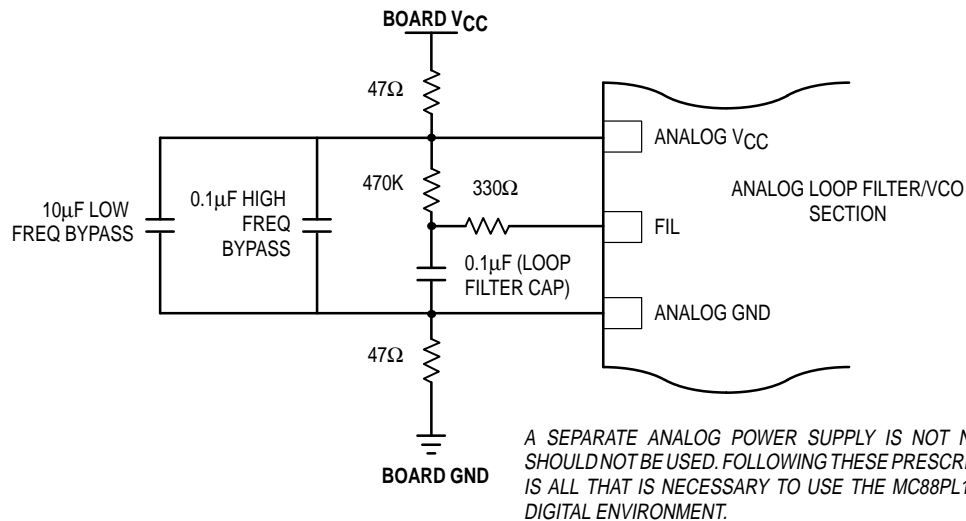

Figure 12. Recommended Loop Filter and Analog Isolation Scheme
- 1 Figure 12 shows a loop filter and analog isolation scheme which will be effective in most applications. The following guidelines should be followed to ensure stable and jitter-free operation:
on a board design near components which may cause digital V_{CC} and ground noise, the above described V_{CC} step deviations should not occur at the digital V_{CC} supply. The purpose of the bypass filtering scheme shown in Figure 12 is to give the chip additional protection from the power supply and ground plane transients that can occur in a high frequency, high speed digital system.
- 2 In addition to the bypass capacitors used in the analog filter of Figure 12, there should be a 0.1μF bypass capacitor between each of the other (digital) nine V_{CC} pins and the board ground plane. This will reduce output switching noise caused by the high current outputs, in addition to reducing potential for noise in the 'analog' section of the chip. These bypass capacitors should also be tied as close to the package as possible.